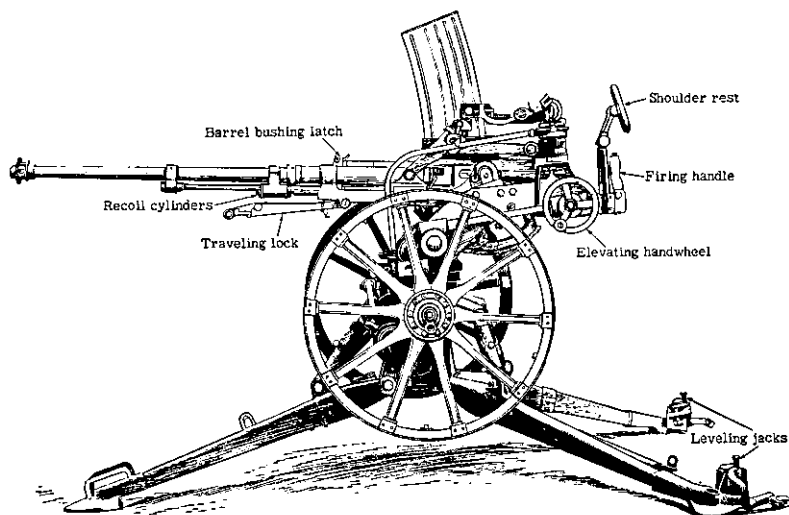

Figure 112.—Model 98 (1938) 20-mm antiaircraft-antitank machine cannon (left side).
(1) Its general appearance, which is different from any other Japanese field piece (see fig. 112).
(2) The front outrigger.
(3) The barrel traveling lock.
(4) The marking ^九八 _式 which is on the top of the receiver. (This marking, which is read *Kyuhachi Shiki* from top to bottom, means "98 model.")